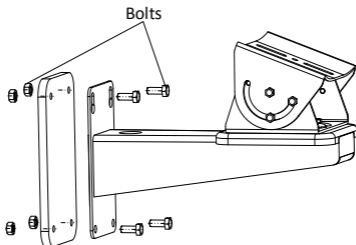

Figure 2-5 Install the Bracket onto the Wall
1. Fix the bullet camera with the mounting bracket with expansion screws or bolts, as shown in Figure 2-5.